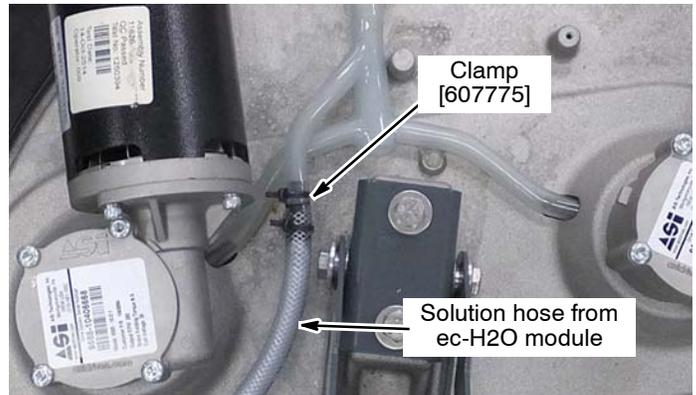

Fig. 33
- At scrub head, connect the routed solution hose from ec-H2O module to the solution hose manifold using clamp as shown (Figure 33)